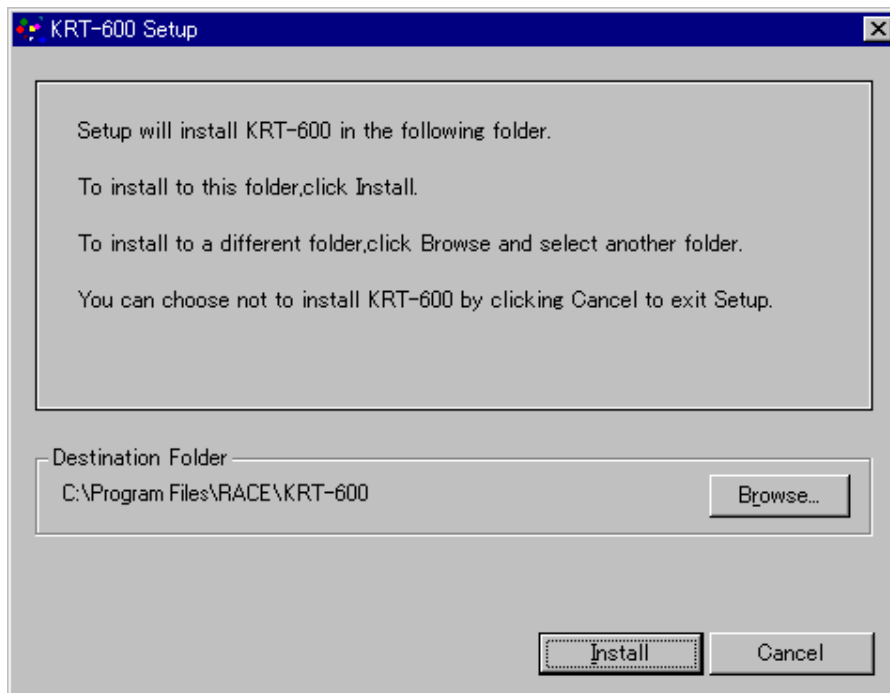

Fig. 5 Choosing Destination Folder
- (4) Click [Next] to display the destination folder selection screen shown in Fig. 5.